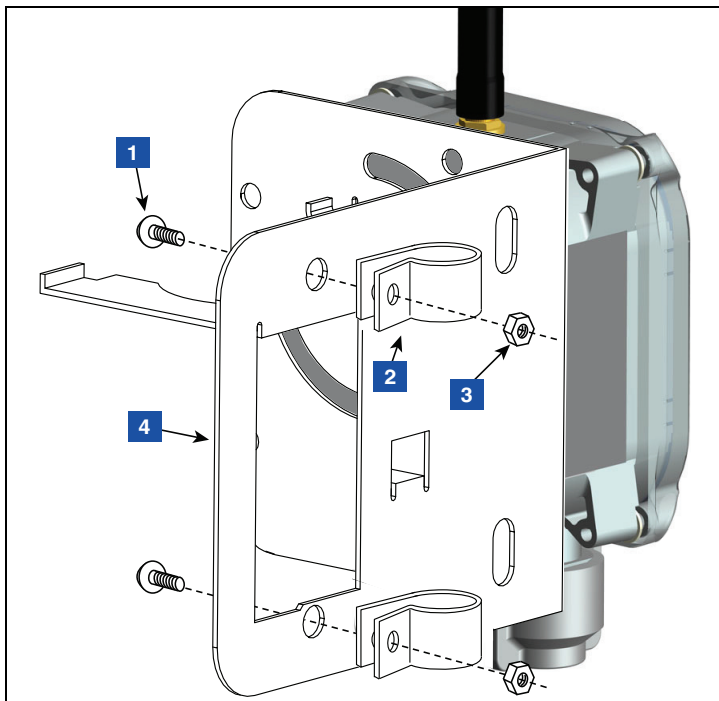

Figure 16. Attach Conduit Clamps to Support Bracket
4. Attach two 12.7mm (1/2") plastic clamps to the support bracket as shown in Figure 16.
LEGEND FOR NUMBERED BOXES IN Figure 16